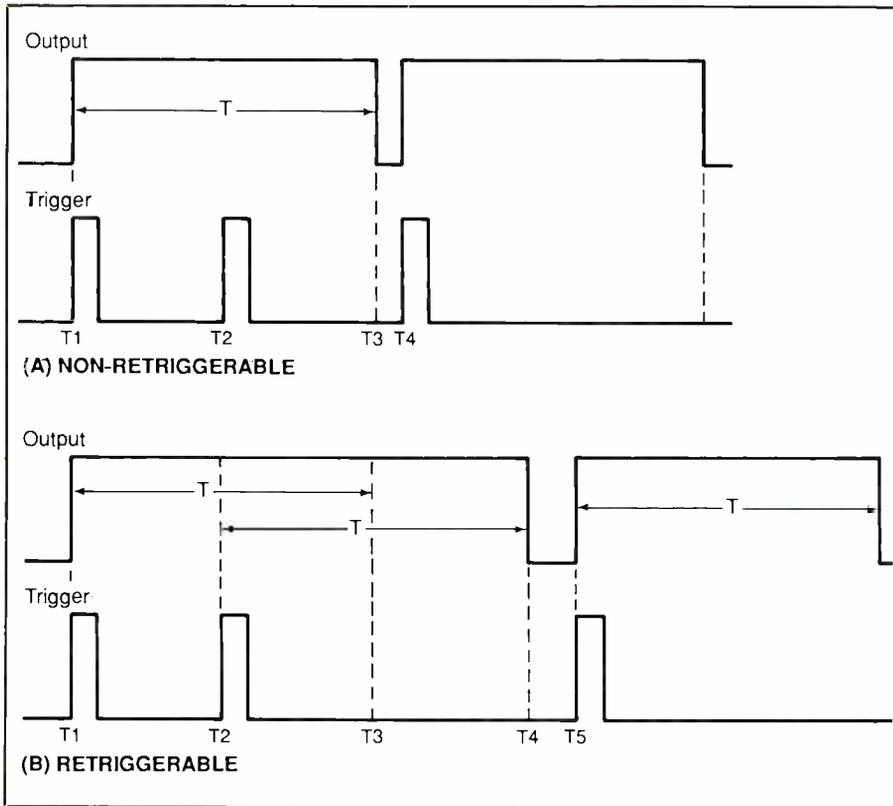

Fig. 2. Responses of non-retriggerable (A) and retriggerable (B) multivibrators.
Shown in Fig. 2(A) is the non-retriggerable response. At time T_1 , a trigger pulse is received and the output snaps to a logic high for time T. At time T_2 , however, a second trigger pulse is received. The circuit ignores this second trigger pulse because it is already active. At time T_3 , the original pulse "times out," which readies the circuit to receive and act upon another trigger pulse. The sub-
Shown in Fig. 2(B) is the retriggerable monostable multivibrator response. The original trigger pulse occurs at time T_1 , at which point the output snaps to logic high for the duration of time T. At time T_2 , when a second pulse is received, the circuit "retriggers" for an additional time T. The total duration of the high output state, then, is $T_4 - T_1$, or natural duration time T plus a shorter duration $T_2 - T_1$.